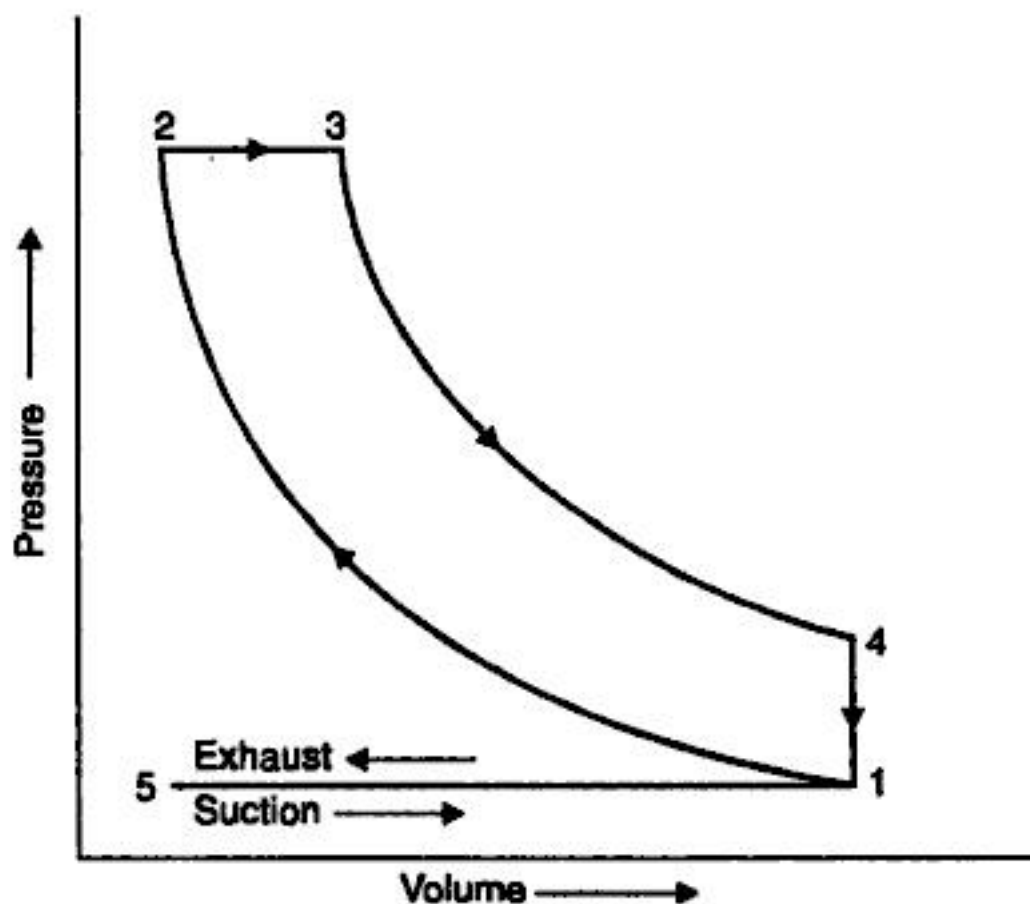

Fig. 2.38. Theoretical  $p$ - $V$  diagram of a four stroke Diesel cycle.
1. **Suction stroke.** With the movement of the piston from T.D.C. to B.D.C. during this stroke, the inlet valve opens and the air at atmospheric pressure is drawn inside the engine cylinder ; the exhaust valve however remains closed. This operation is represented by the line 5-1 (Fig. 2.38).
2. **Compression stroke.** The air drawn at atmospheric pressure during the suction stroke is compressed to high pressure and temperature (to the value of 35 bar and 600°C respectively) as the piston moves from B.D.C. to T.D.C. This operation is represented by 1-2 (Fig. 2.38). Both the inlet and exhaust valves do not open during any part of this stroke.
3. **Expansion or working stroke.** As the piston starts moving from T.D.C. a metered quantity of fuel is injected into the hot compressed air in fine sprays by the fuel injector and it (fuel) starts burning at constant pressure shown by the line 2-3. At the point 3 fuel supply is cut off. The fuel is injected at the end of compression stroke but in actual practice the ignition of the fuel starts before the end of the compression stroke. The hot gases of the cylinder expand adiabatically to point 4, thus doing work on the piston. The expansion is shown by 3-4 (Fig. 2.38).
4. **Exhaust stroke.** The piston moves from the B.D.C. to T.D.C. and the exhaust gases escape to the atmosphere through the exhaust valve. When the piston reaches the T.D.C. the exhaust valve closes and the cycle is completed. This stroke is represented by the line 1-5 (Fig. 2.38).